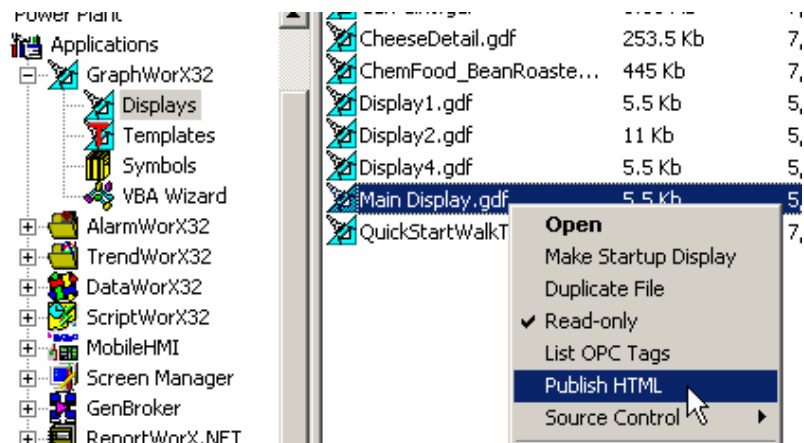

Figure 4.31. Launching the Web Publishing Wizard
1. Right-click on a GraphWorX display and select **Publish HTML**, as shown in **Figure 4.31**.